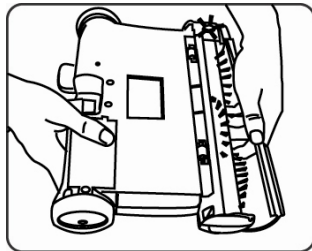

Fig. 17
- Periodically remove the transparent brush cover on the front of the cordless sweeper and remove any build up of lint, hair or fiber on the rotating brush. To remove the cover - grip the cover from the bottom, pull out and upward until the cover unlocks from the side slots and tabs located on the top of the sweeper. Carefully cut away threads or hair with scissors. (Fig. 17)